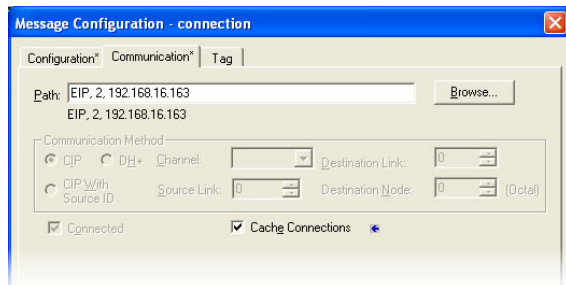

Figure 60: Setting the Communication Path
- d) “Communication” tab settings (refer to Figure 60):